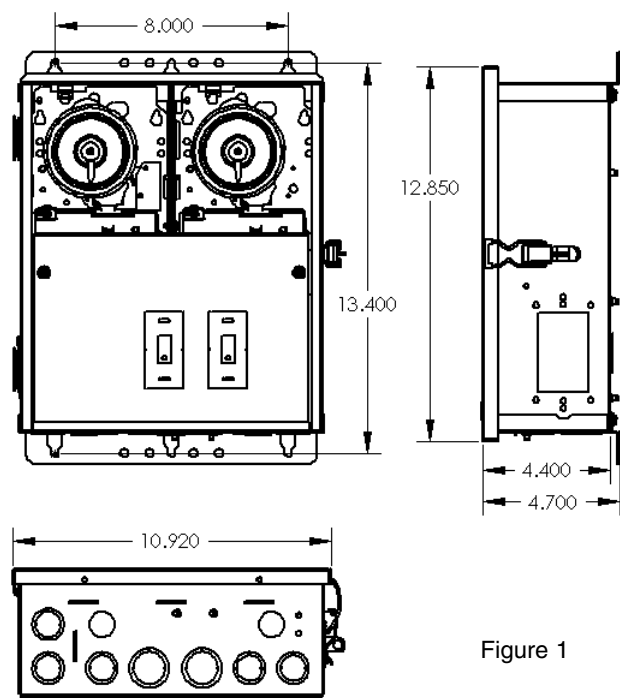

Figure 1
4. Refer to Figure 1 below. Note that this enclosure contains **two** independent time switches. The one on the left is a **Model T106M**, a Single Pole Double Throw (SPDT) switch, and it's function is to **change** the speed (RPM) of the pump motor. The time switch on the right is a **Model T104M**, a Double Pole Single Throw (DPST) switch, and it's function is to **start/stop** the pump motor. To wire the two switches, follow wiring diagram on page 4 of this manual. Make sure that connections to time switch terminals are tight (25 lb. - in. minimum) and insulation clears the pressure plate - see illustration.